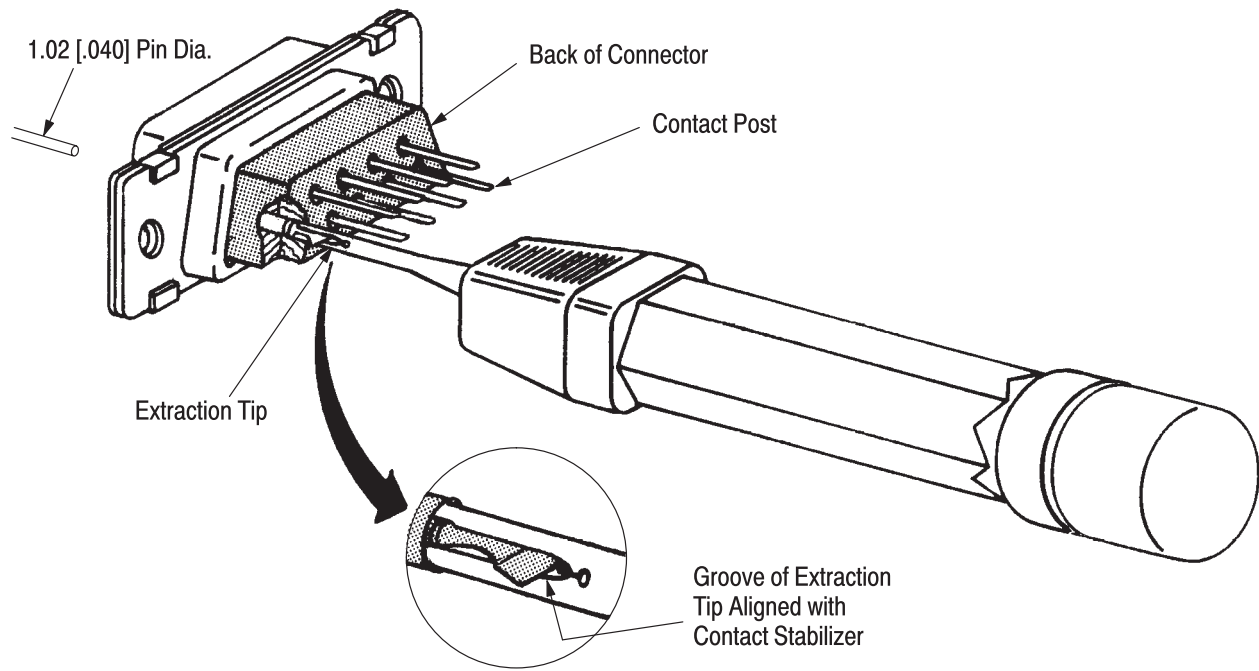

Figure 6
4.4. Extracting A Posted Contact (Figure 6)
2. Align the groove of the extraction tip with the contact stabilizer as shown in Figure 6.